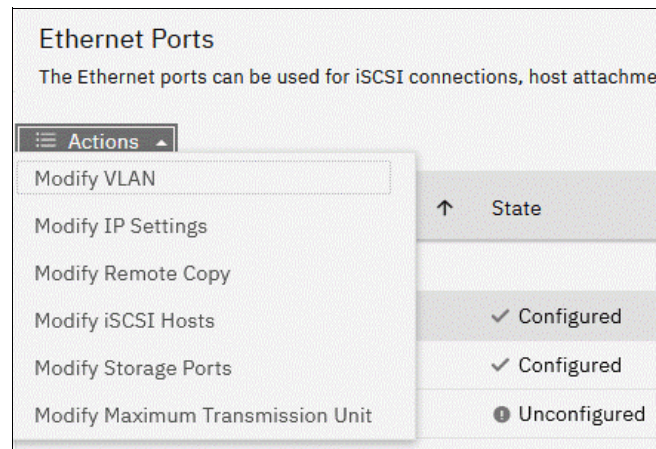

Figure 7-17 Available actions with configured ports
- The iSCSI host connection is enabled *after setting* the IP address by default. There are several actions that can be done with already configured ports, as shown in Figure 7-17. For example, to disable any interfaces that you do not want to be used for host connections and might be used for replication only, select the configured port, and then select **Actions (or right mouse button while hovering over the chosen port) → Modify iSCSI Hosts**.